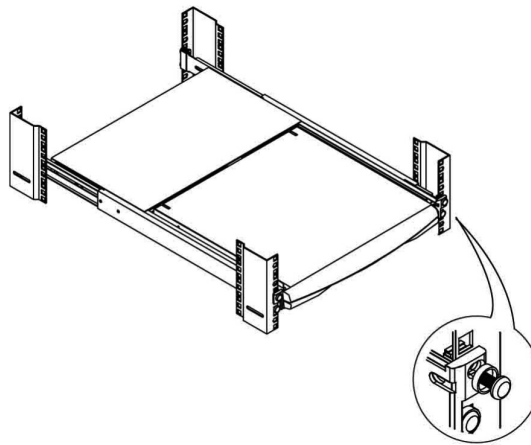

Figure 3-3. Securing the rack tray.
- 6 Use the remaining two M6 screws and cup washers to fix the front mounting ears of the rack tray assembly to rack rails. See Figure 3-3.